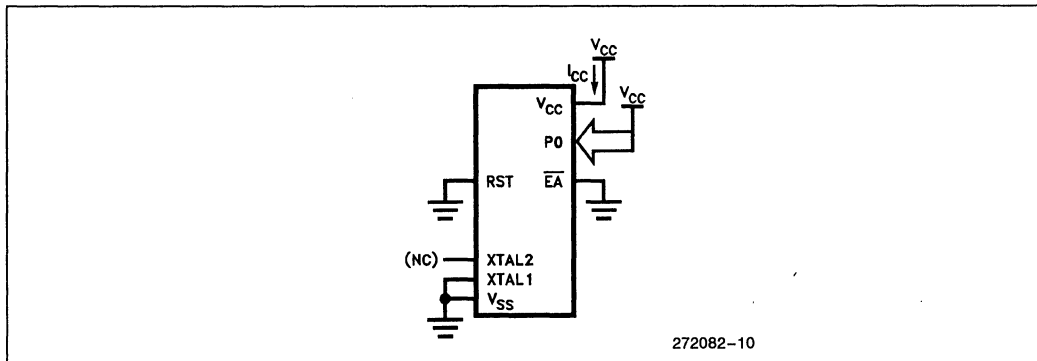

Figure 6. I_{CC} Test Condition, Power Down Mode. All other pins are disconnected. $V_{CC} = 2V$ to $5.5V$.
- See Figures 6 through 9 for I_{CC} test conditions. Minimum V_{CC} for Power Down is 2V.